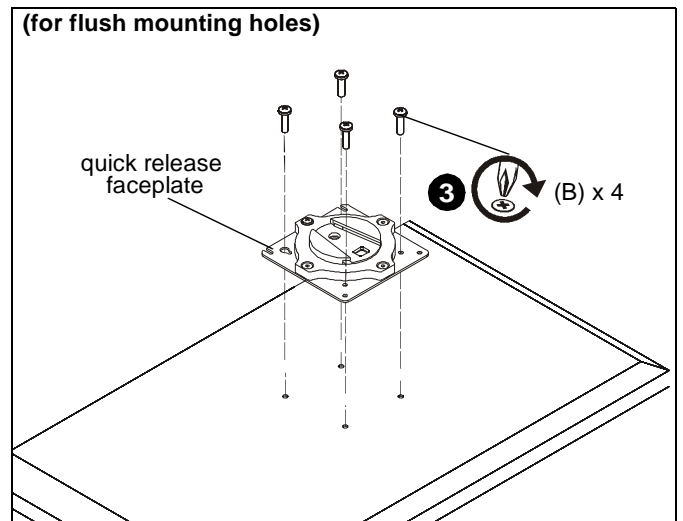

Figure 14
- Using Phillips screwdriver, carefully install four M4x14mm screws (B) through corresponding holes on faceplate and into the mounting holes on the display. (See Figure 14)